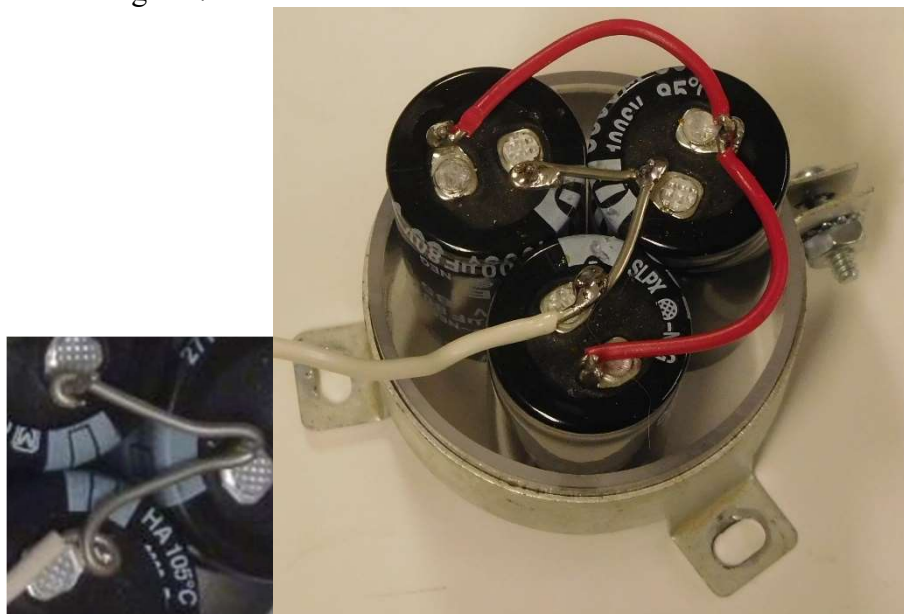

Figure 7-Adding the recycled white wire from the old cap to the negative terminals of the new triple cap
7. Form the bare wire as shown to connect together all three negative terminals as shown in Figure 7.